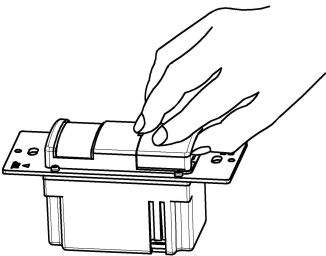

Figure 3
5. Remove the small cover plate. (Illustrated as **Figure 3**.)
6. Locate the adjustment knobs on the control panel to perform test and adjustment. (Illustrated as **Figure 3**.)